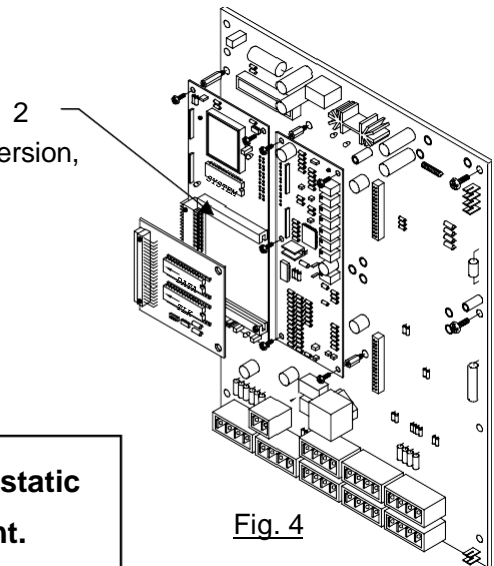

Fig. 4
2. Check the system software version. If it is NOT a CGMT version, (label says CGMT Vx.x) remove it and replace with (GGMT V2.0) system software eprom. (Fig.4) (For further eprom replacement instructions see Procedure1 below.)